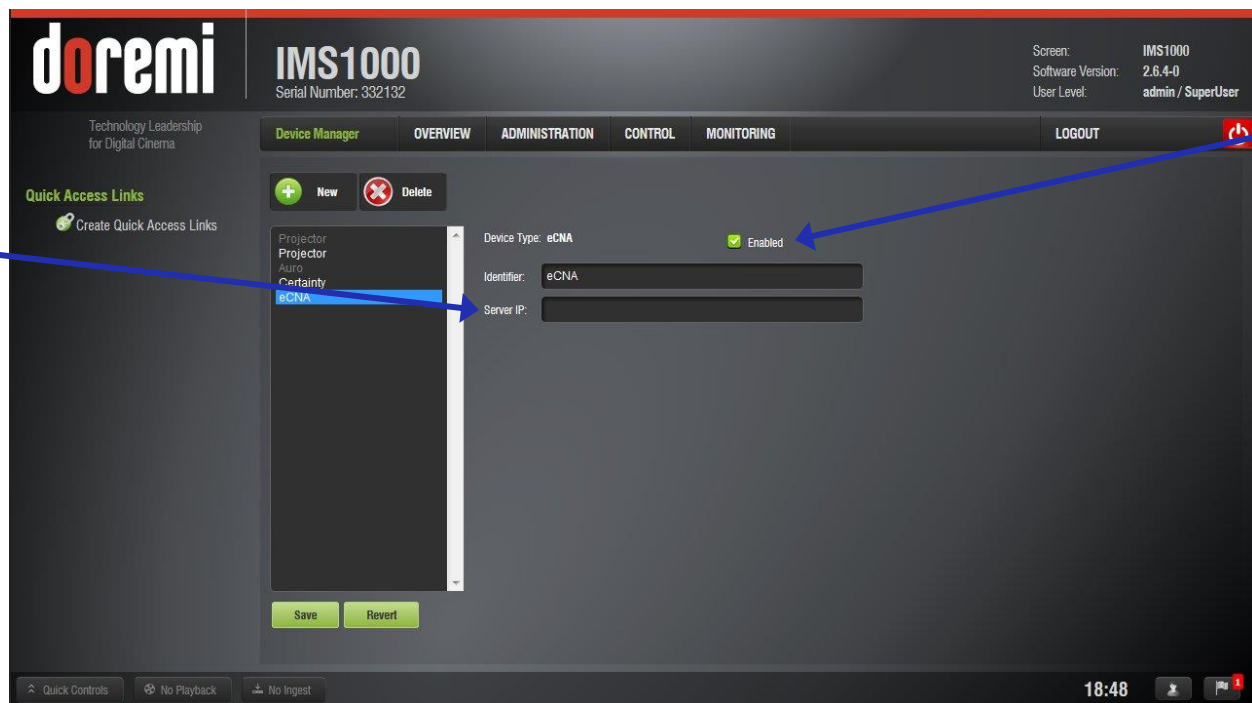

Figure 130: eCNA Added
- Input the eCNA Server IP address in the appropriate field (Figure 130).